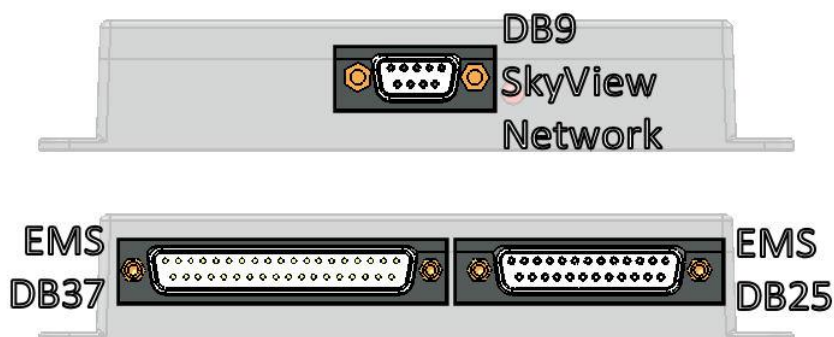

Figure 146: SV-EMS-220 Connectors
The SkyView EMS Module (SV-EMS-220) has three (3) connectors as illustrated in Figure 146:
- One (1) D9M SkyView network connector.
- One (1) D37M for various transducer connections.
- One (1) D25F for thermocouple connections.